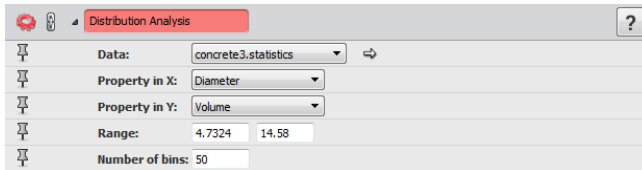

Figure 10.25: Parameter Settings of the *Distribution Analysis* Module
2. Attach a *Distribution Analysis* module to the output of the *Fiber Shape Statistics* module, set the parameters as shown in Figure 10.25, and click **Apply**.